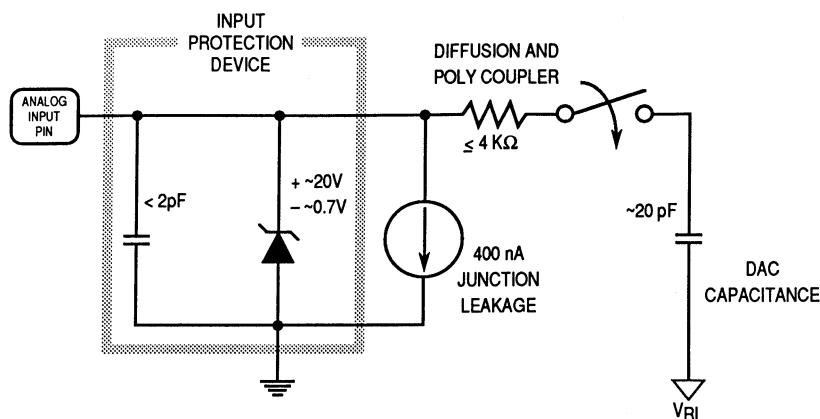

Figure 10–2. Electrical Model of an A/D Input Pin (Sample Mode)
The A/D system is an 8-channel, 8-bit, multiplexed-input converter. It does not require external sample and hold circuits because of the type of charge redistribution technique used. A/D converter timing can be synchronized to the system E clock, or to an internal resistor capacitor (RC) oscillator. The A/D converter system consists of four functional blocks: multiplexer, analog converter, digital control, and result storage. Refer to Figure 10–1.
A/D converter operations are performed in sequences of four conversions each. A conversion sequence can repeat continuously or stop after one iteration. The conversion complete flag (CCF) is set after the fourth conversion in a sequence to show the availability of data in the result registers. Figure 10–3 shows the timing of a typical sequence. Synchronization is referenced to the system E clock.